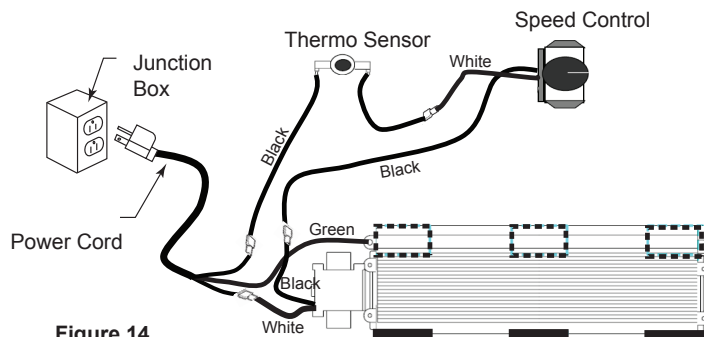

Figure 14.
2. Plug in power cord to junction box. Figure 14